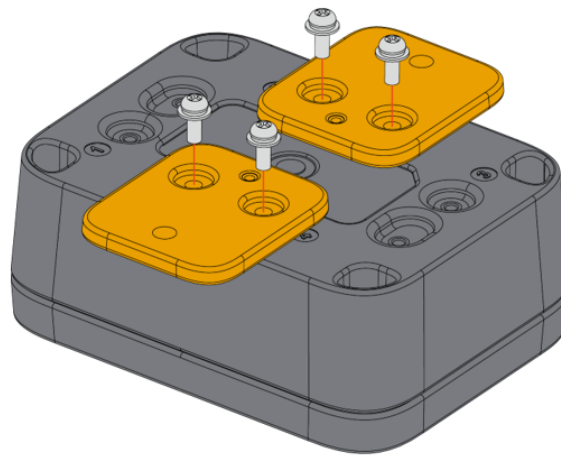

Figure 17: Fixing the wall mount on the enclosure
2. Fix the wall mounts marked with the letter **D** on the WisBlock Unify Enclosure using four (4) pieces of M3*8 mm head screw with a washer. Place it on fix positions number **1 and 3** or **2 and 4** of the enclosure, as shown in **Figure 17**.